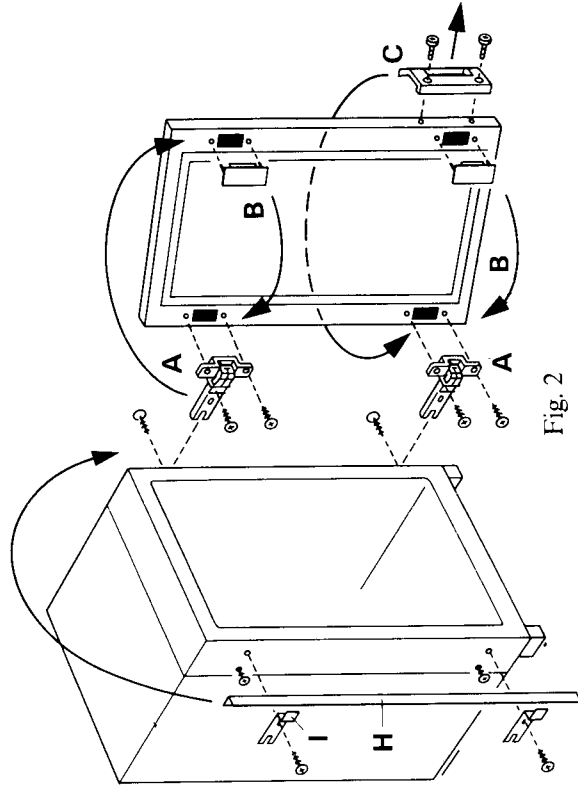

Fig. 2
Reversing the Main Door and Frozen Food Compartment Door (see Figs 2, 3 & 4)
- 2) Cut the side trim (H) (see Fig. 2) to the internal height of the recess.